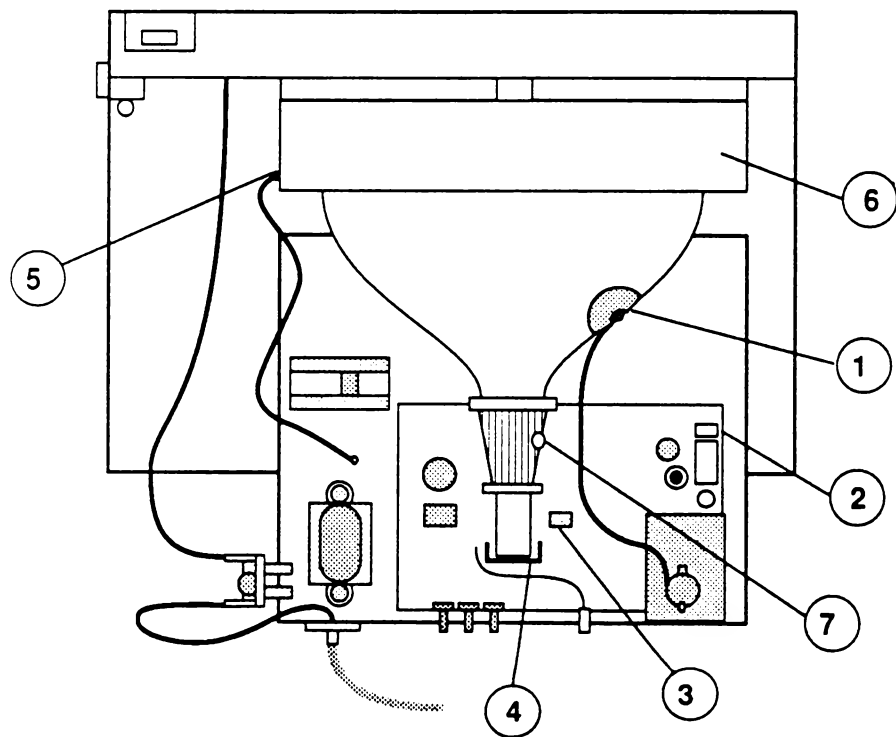

**FIGURE 14**
3. Remove the anode wire (Figure 14, #1) by peeling back the rubber cap, compressing the prongs of the anode connector clip (using long-nose pliers, if necessary), and pulling the connector out of the anode aperture.
6. Disconnect the brown/gray wire from position H-DY (Figure 14, #2) and the green/white wire from position V-DY (Figure 14, #3) on the main electronics assembly. Using diagonal cutters, carefully cut all the tie-wraps along these wires.
7. Disconnect the socket (Figure 14, #4) from the neck of the CRT.
8. Remove the screw (Figure 14, #5) that secures the chassis ground wire to the left side of the top ground shield.
9. Remove the five screws that hold the upper shield (Figure 14, #6) to the front bezel, and remove the shield.
13. If you need to remove the yoke assembly from the CRT, loosen the clamp screw (Figure 14, #7) and slide the yoke off to the rear of the CRT. (If necessary, cut through the adhesive at the front of the yoke with a scalpel knife.)